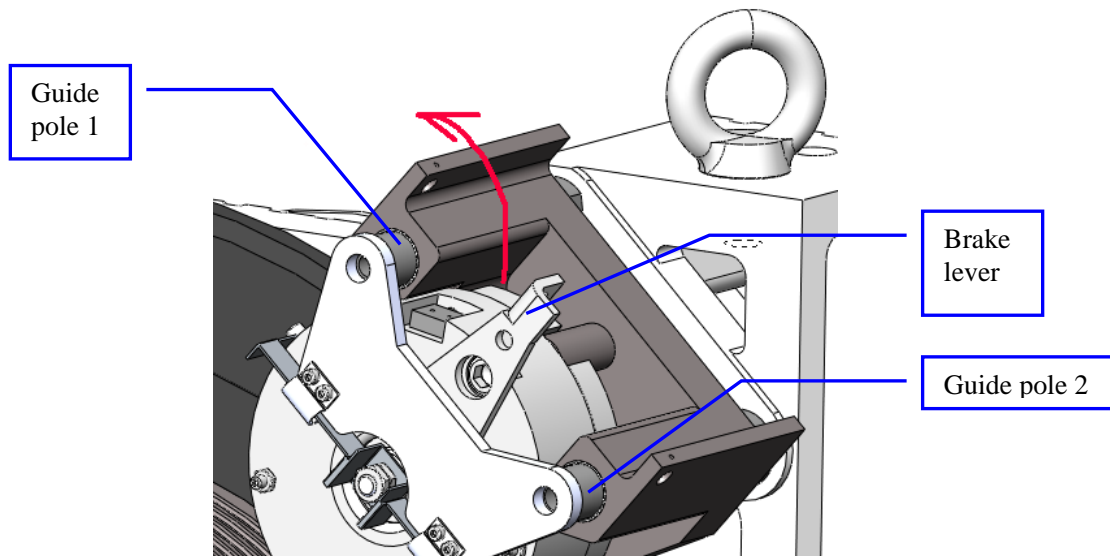

Figure 32: Rotate the brake
6. Rotate the brake assembly and slide off the guide pole 2. See Figure 32.